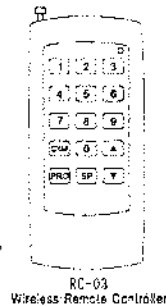

Fig.12
6.Wireless remote controller using(See Fig.12):